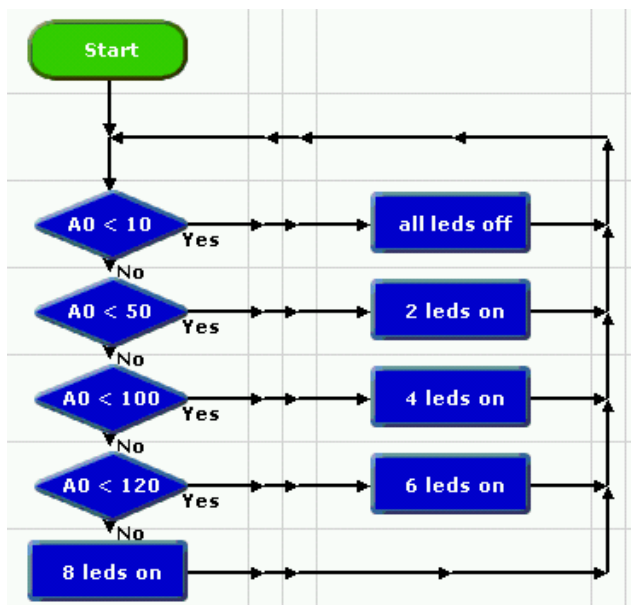

Fig 7. Simple light meter
Fig 7 shows a program for a simple light meter. When it is dark, no LEDs are lit. As the light level increases, more LEDs are switched on. As the light level falls again, the LEDs are switched off.
Build the program shown in Fig 7. Test run it. Then download it to the T-board.
1. Build a program that uses the variable resistor to simulate a temperature sensor in a system in which three LEDs are used to indicate water temperature – green for cold (<10), orange for medium (<60), and red for hot (>60). You can base this system on Fig 7.